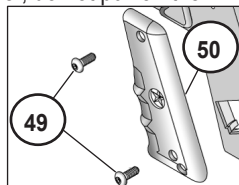

Figure 5: Remove Grip Screws
- a. Remove two screws (49) and the left grip (50) shown in Figure 5.